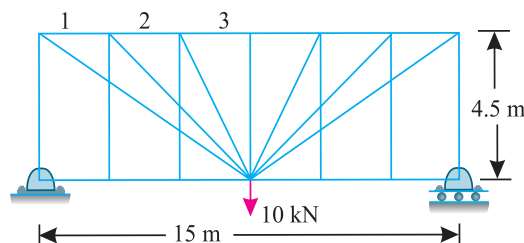

Fig. 13.69.
4. A truss 15 m long is subjected to a point load of 10 kN as shown in Fig. 13.69. Find the forces in the members 1, 2 and 3 of the truss.